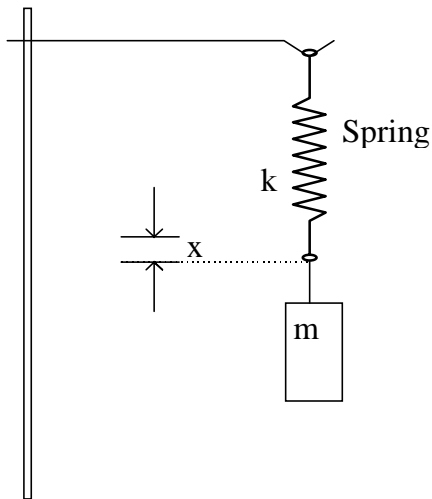

Figure 2: Equipment Setup
- a. Set up the hanging apparatus as shown in Figure 2.